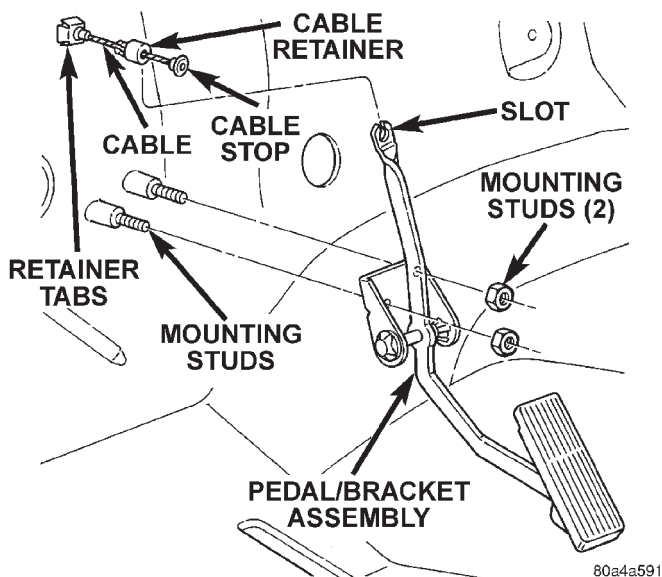

Fig. 38 Accelerator Pedal Mounting
The accelerator pedal is connected to the throttle body linkage by the throttle cable. The cable is protected by a plastic sheathing and is connected to the throttle body linkage by a ball socket. It is connected to the upper part of the accelerator pedal arm by a plastic retainer (clip) (Fig. 38). This retainer (clip) snaps into the top of the accelerator pedal arm. Retainer tabs (built into the cable sheathing) (Fig. 38) fasten the cable to the dash panel.
(1) From inside vehicle, hold up accelerator pedal. Remove plastic cable retainer (clip) and throttle cable core wire from upper end of accelerator pedal arm (Fig. 38). Plastic cable retainer (clip) snaps into pedal arm.
(2) Remove accelerator pedal mounting bracket nuts.
(3) Remove accelerator pedal assembly.
(2) Remove cable core wire at pedal arm.
(3) From inside vehicle, pinch both sides of cable housing retainer tabs (Fig. 38) at dash panel. Remove cable housing from dash panel and pull into engine compartment.